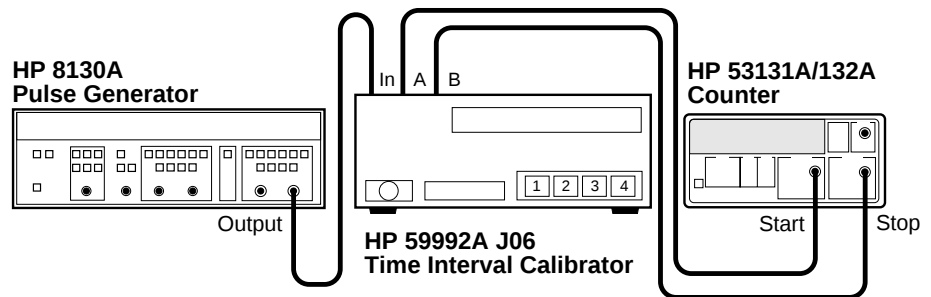

Figure 2-4. Calibration Setup for CAL: TI FINE?
- 1 Connect the HP 8130A Pulse Generator, HP 59992A J06 Time Interval Calibrator, and HP 53131A/123A Counter as shown in Figure 2-4.**